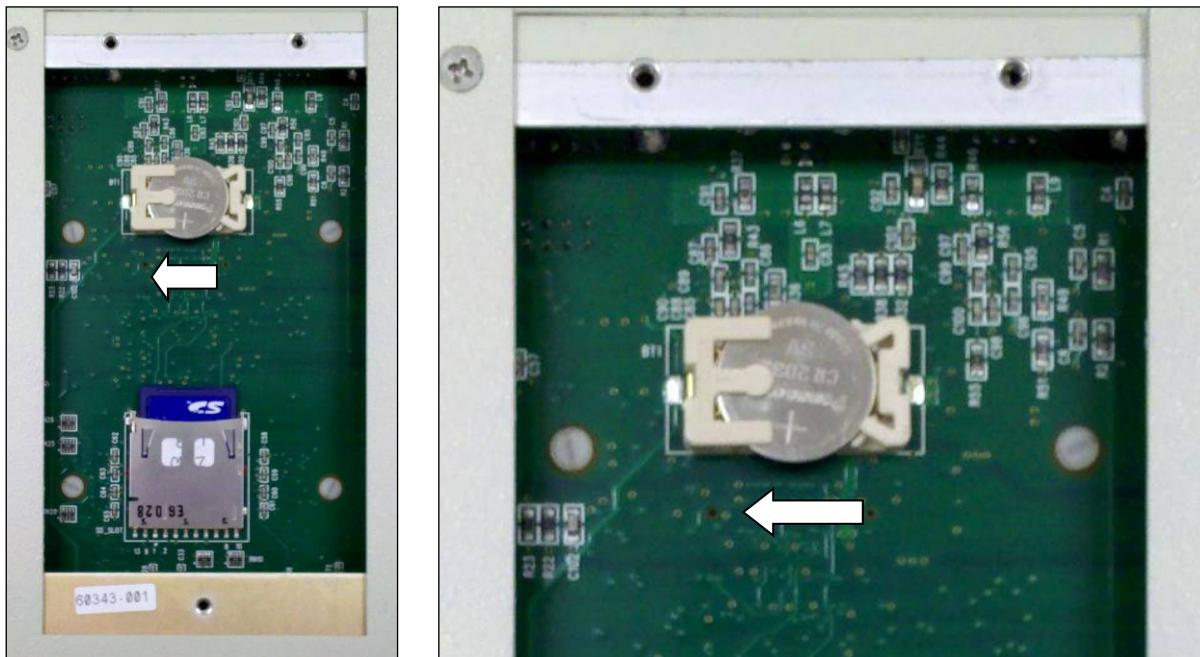

Figure 15-5
- d. Gently press the battery in the direction of the arrow (toward the end of the battery holder with the three prongs) as shown in Figure 15-5.